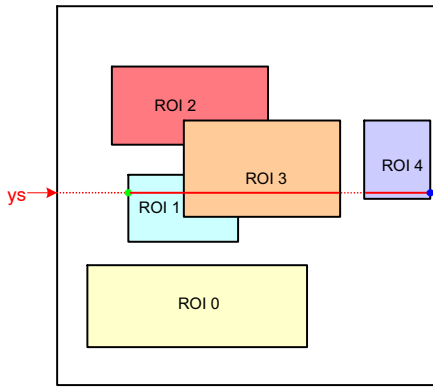

Figure 23. Scanning the Image Array with Five Windows
Figure 23 illustrates a practical example of a configuration with five windows. The current position of the read pointer (*ys*) is indicated by a red line crossing the image array. For this position of the read pointer, three windows need to be read out. The initial start position for the x-kernel pointer is the x-start configuration of ROI1. Kernels are scanned up to the ROI3 x-end position. From there, the x-pointer jumps to the next window, which is ROI4 in this illustration. When reaching ROI4's x-end position, the read pointer is incremented to the next line and *xs* is reinitialized to the starting position of ROI1.
- The read pointer is not necessarily incremental by one, but depending on the configuration, it can jump in y-direction. In Figure 23, this is the case when reaching the end of ROI0 where the read pointer jumps to the y-start position of ROI1